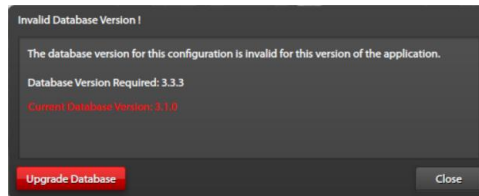

Figure 6. Invalid Database Version
**NOTE:** If the selected file was created in an earlier version of the E3 Console application, the warning screen (see Figure 6) appears. The E3 Console can upgrade the configuration database to the correct version. The versions will change incrementally with the release of new software.